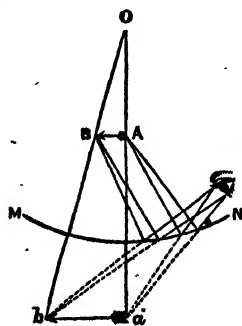

FIG. 9.
3. When the mirror is concave (Fig. 9), and the object,  $A B$ , placed between the principal focus and the mirror, the image,  $a b$ , is virtual, erect, and enlarged in the proportion of  $b O$  to  $B O$ .